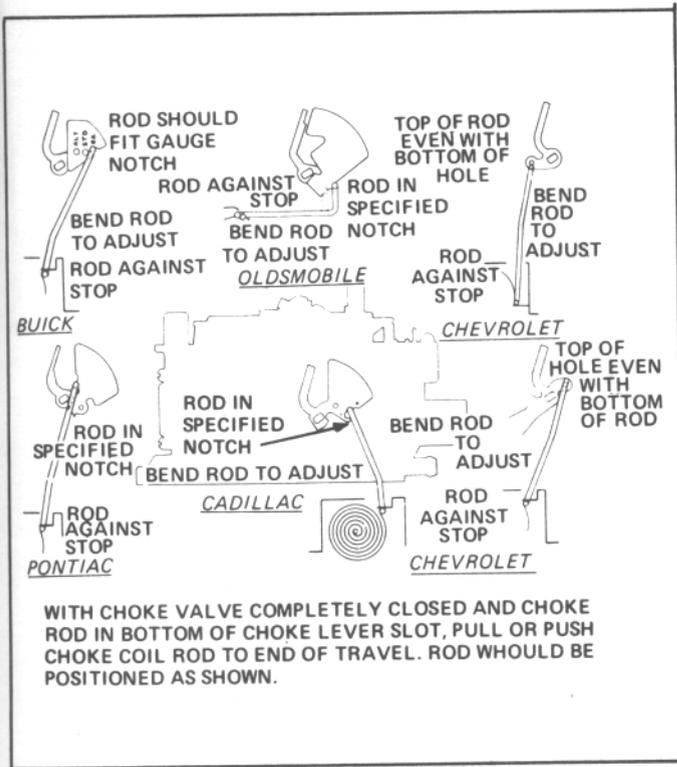

Fig. 51. Choke Coil Rod Adjustment
- Bend rod as shown to adjust (See Fig. 51).